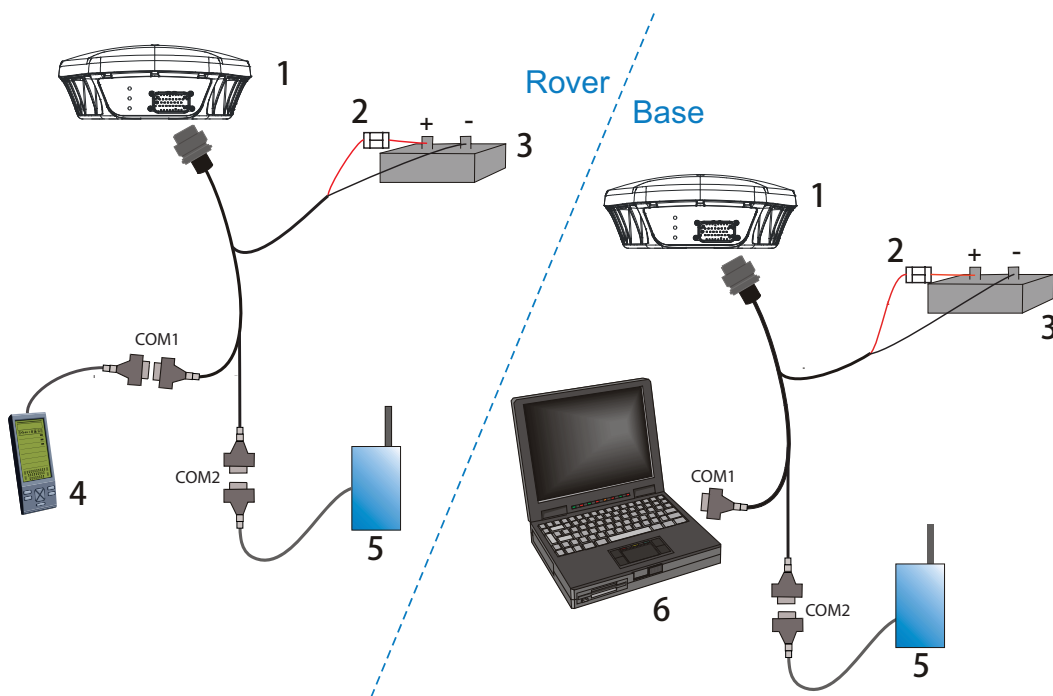

Figure 8: Basic Differential Setup
Before operating the SMART-MR10 for the first time, please ensure that you have followed the installation instructions in *Chapter 2 Installation and Setup* starting on *page 21*. The following instructions are based on a COM port configuration such as that shown in *Figure 8* on *page 36*. It is assumed that a personal computer (PC), or laptop, is used during initial operation and testing for greater ease and versatility.
RTK or DGPS corrections can be transmitted from a base station to a rover station to improve position accuracy. The base station is the GNSS receiver, which is acting as the stationary reference. It has a known position and transmits correction messages to the rover station. The rover station is the GNSS receiver which does not know its exact position and can be sent correction messages from a base station to calculate differential GNSS positions. The SMART-MR10 can be used as a base receiver to transmit RTK or DGPS corrections or a rover to receive the same corrections. An example of differential setup is given in *Figure 8 on page 36*.